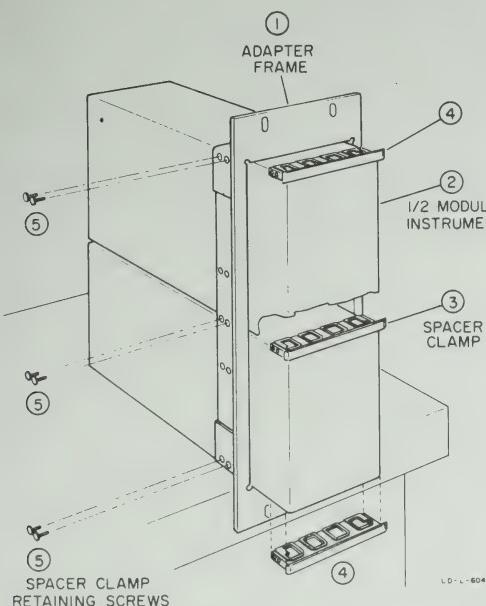

Figure 2-4. Two Half Modules in Rack Adapter
**2-8. ADAPTER FRAME.** The adapter frame is a rack frame that accepts any combination of submodular units. It can be rack mounted only. An illustration of the adapter frame is given in figure 2-3. To assemble, refer to Figure 2-4 and proceed as follows:
- a. Place the adapter frame (1) on edge of bench as illustrated.
- b. Stack the submodular units (2) in the frame.
- c. Place the spacer clamps (3) between instruments.
- d. Place spacer clamps (4) on the two end instruments.